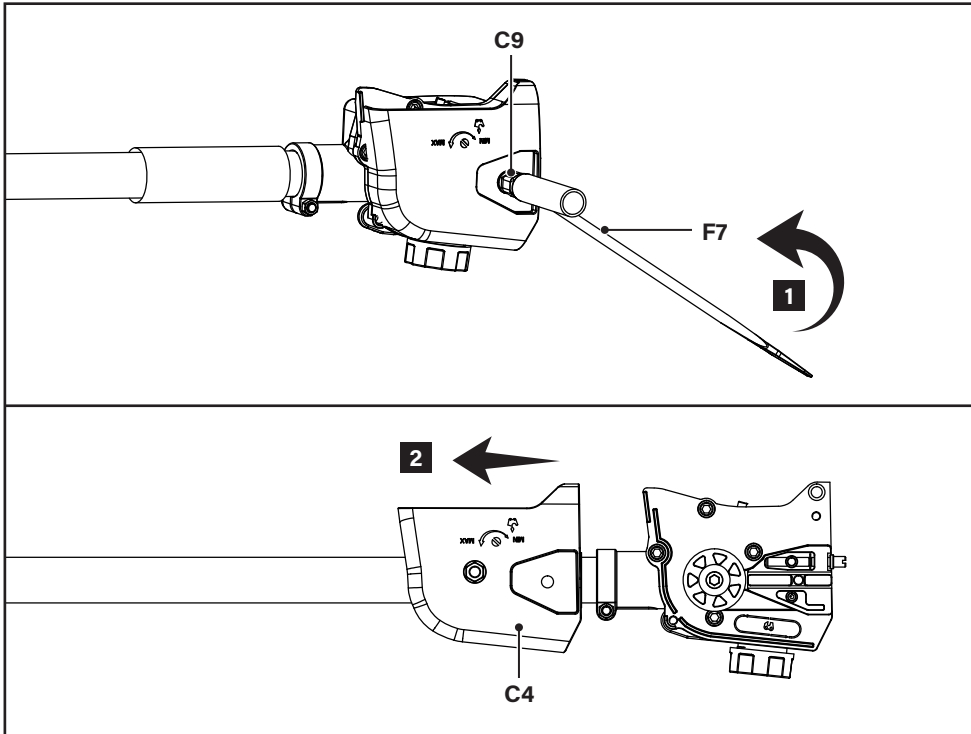

Fig. 2
2. Remove the fixing nut together with the clutch cover (C4) (Fig. 2).